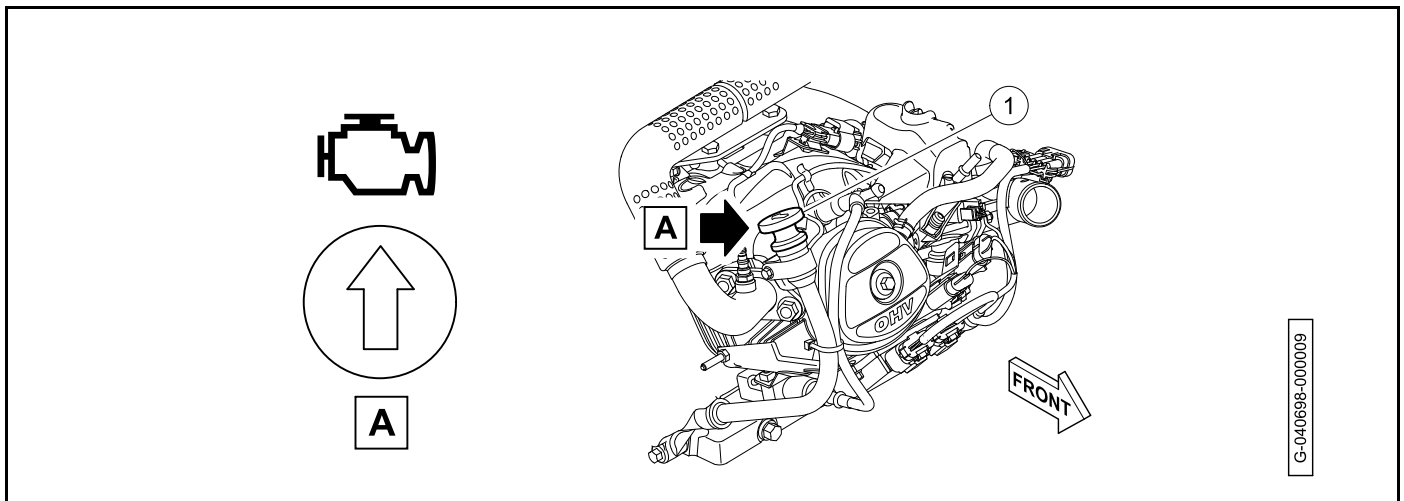

Figure 10-7 Dipstick
1. Remove the dipstick (1) (Figure 10-7, Page 10-13).